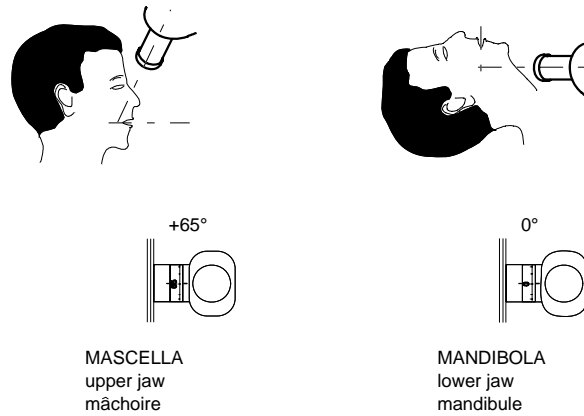
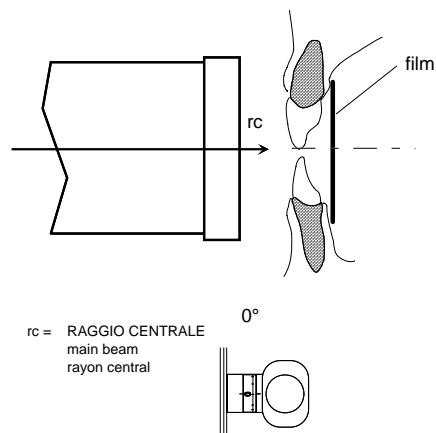

Figure 11
Figure 12
- a) Set the tubehead with an angle suitable for the exposure and positioning requested (see Figure 9, Figure 10, Figure 11, Figure 12).